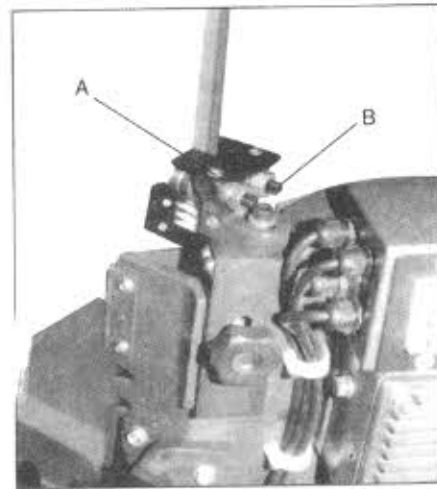

Fig.14
3. Loosen hex cap screw (A, Fig. 14) and adjust assembly so that back roller bearing is approximately 0.08mm-0.12mm from the back of the blade.